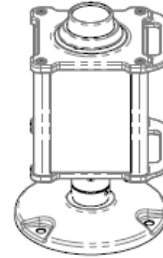

Figure 4-13
3. Connect the connecting cable to the original position of the circuit board, cover the upper cover of the shell and tighten the screws (Figure 4-13).